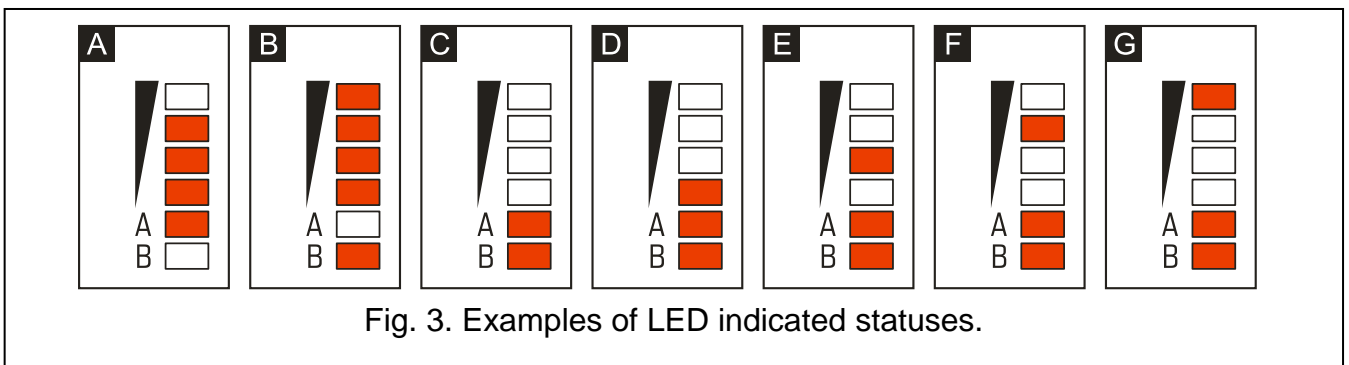

Fig. 3. Examples of LED indicated statuses.
Some additional information can be provided by LEDs on the electronics board (see: Fig. 3).
- 2 - **LEDs** indicating the module status. LED A is blinking when GPRS transmission is going on. LED B is blinking when SMS message is being sent or the module is calling (CLIP test transmission). The other LEDs indicate the level of signal received by the GSM telephone. LEDs A and B blinking simultaneously indicate logging into the GSM network. In case of an unsuccessful GSM network login, blinking of the other LEDs provides information on the troubles (see: Fig. 3).
Explanations for Figure 3:
If the SIM card PIN code is inconsistent with that defined in module settings, the inconsistency will be indicated by the electronics board LEDs (see: Fig. 3 Example F). The second attempt of using the PIN code will be made after 30 seconds. After the third attempt to use the invalid PIN code, the SIM card will be blocked. In order to